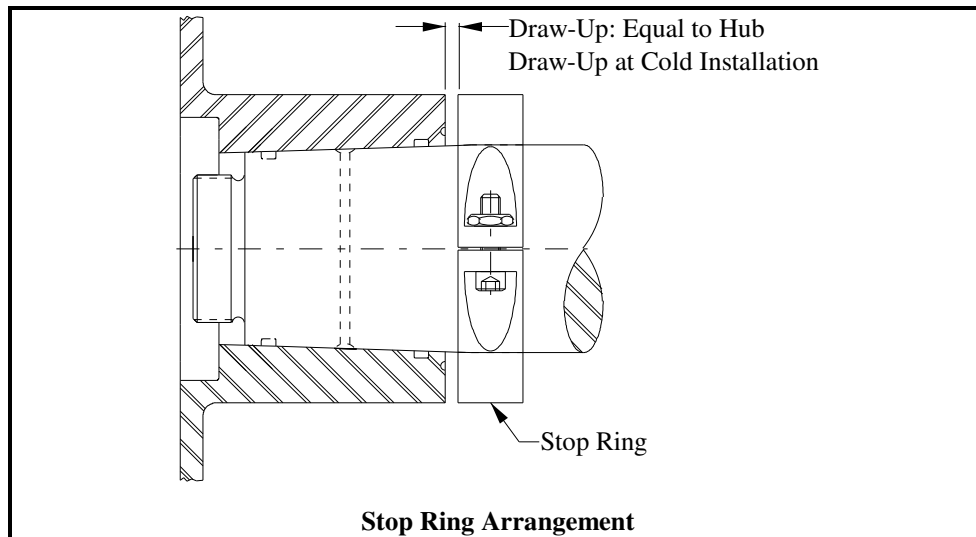

Figure 4-4
- 4.2.3.4 Install the hub, hand tight, onto the shaft without o- rings and back-up rings. Using feeler gages, position a positive stop onto the shaft corresponding to the draw-up dimension specified on the Ameridrives Sales Drawing (see Figure 4-4).